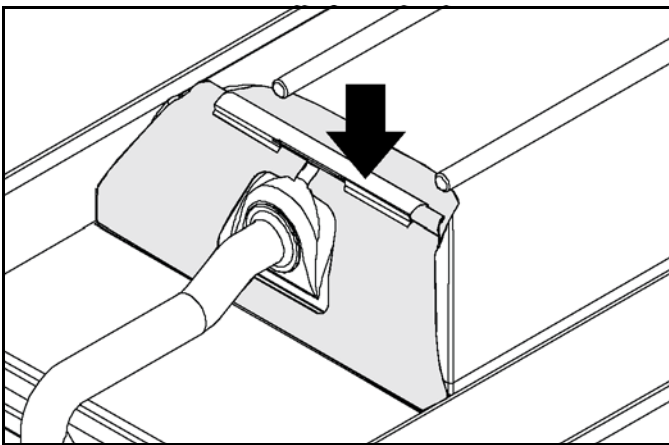

Figure-18
2. Center the release sheet on the front of the upper platen. Pull it tightly over the release material cover rail located in the front of the platen and secure it with a locking clip. See Figure-18.